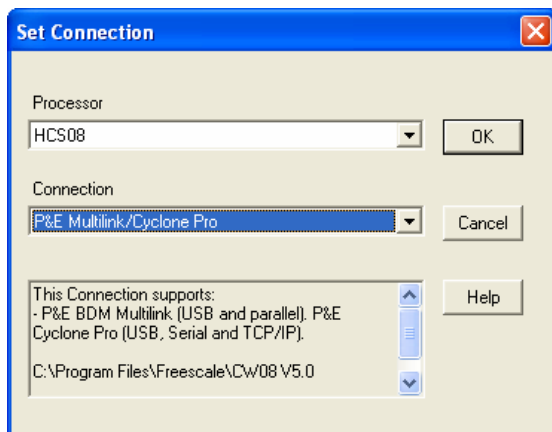

FIGURE 11. CODE WARRIOR SIMULATOR SET CONNECTION
2. Select *Set Connection* from the Component menu. The *Connection* dialog box appears (see Figure 11).